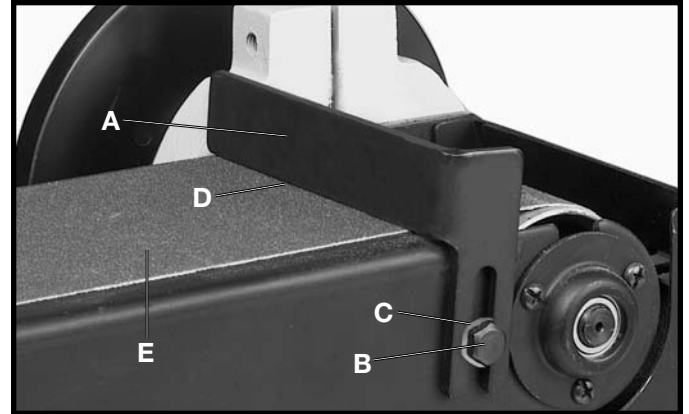

Fig. 14
1. Assemble backstop (A) Fig. 14, to the sanding arm using the 1/2" long hex head screw (B) and 5/16" flat washer (C). Do not overtighten screw (B).